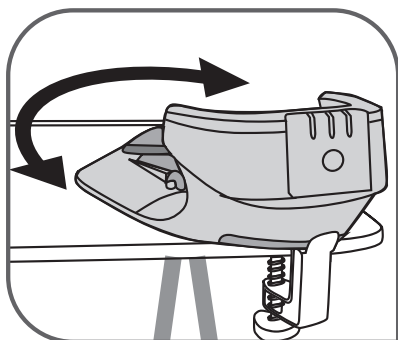

Fig.4
- Adjust the angle of the base on the board – **fig.4**. We recommend that the base is adjusted to a 45° angle for greater comfort.